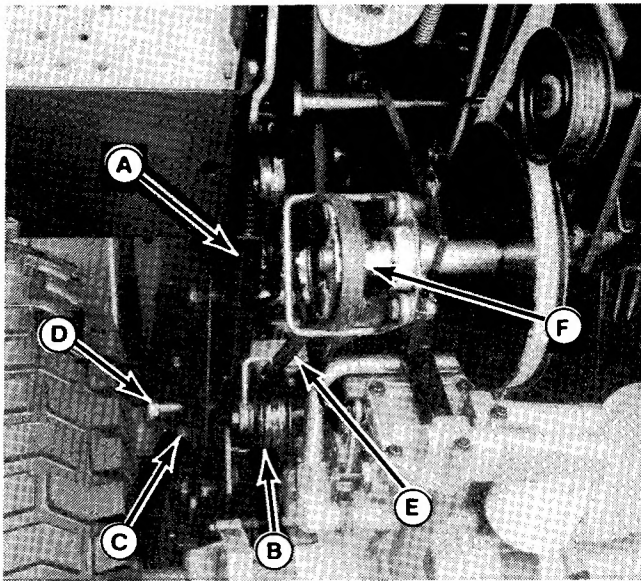

Figure 7.
- a. Insert clutch rod (A, Figure 7) into top hole (closest to pulleys) of pulley assembly (B). Secure with spring clip.
- b. With pulleys facing the underside of tractor, raise assembly to bushing assembly (C).
- c. Push pin (D) through assemblies (B & C) and secure with spring clip.
- d. Install belt (E) on jackshaft pulley (F).
9. Loosen nut on rear idler pulley and remove belt (E, Figure 7) from pulley and jackshaft pulley assembly (F). Retighten nut.
10. Remove clutching idler pulley assembly (B, Figure 7) from bushing assembly by removing spring clip and pin (D). With pulley assembly on ground, remove clutch rod (A) and spring clip. Reinstall spring clips for storage.